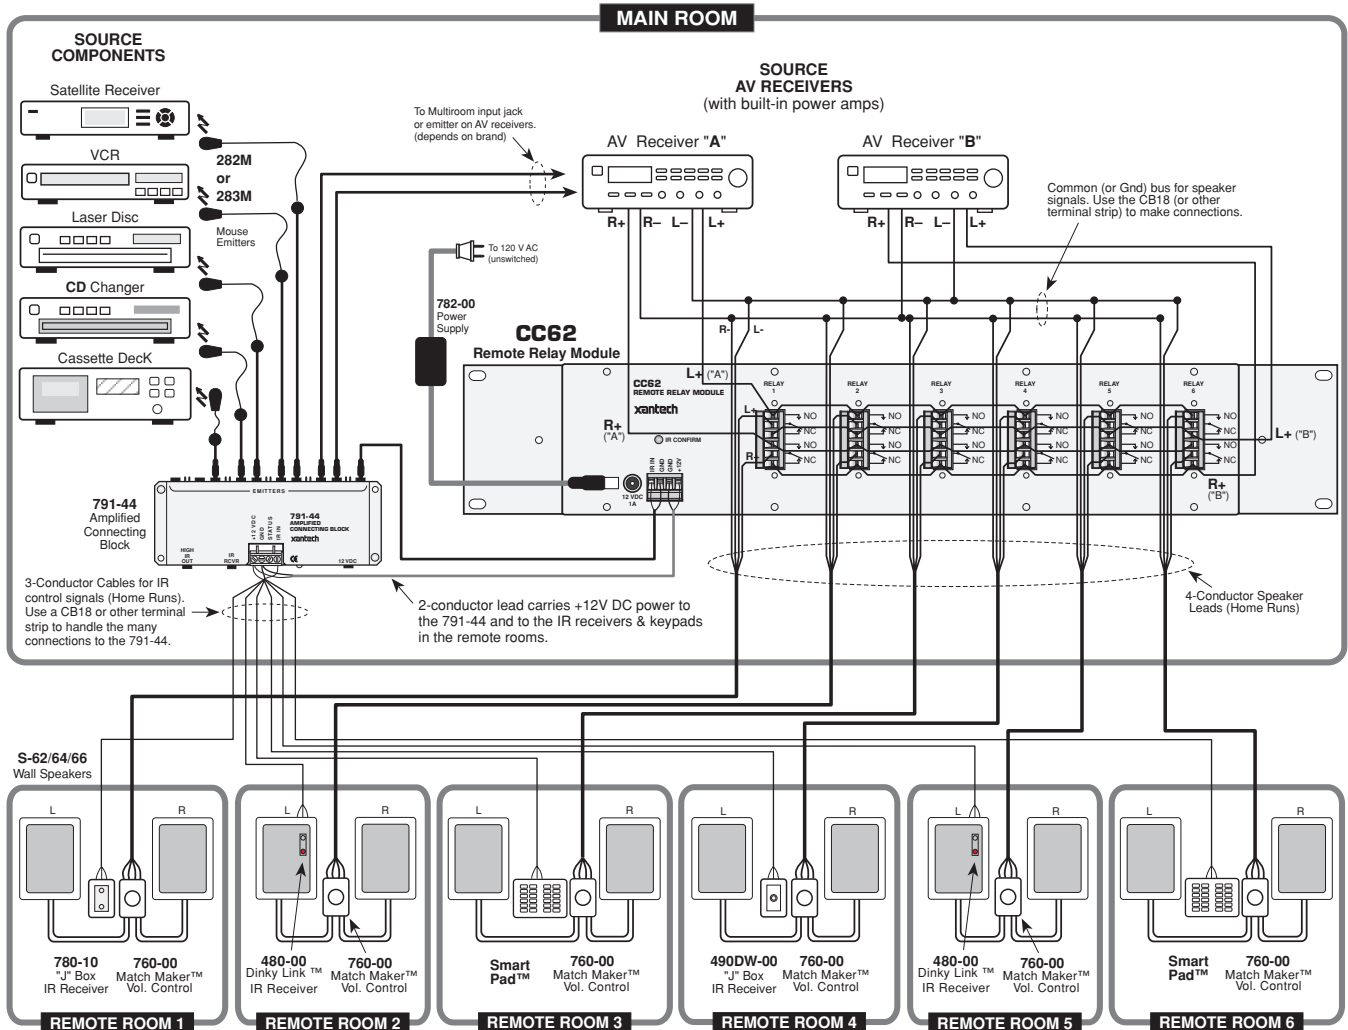

Fig. 4 A Typical Multiroom AV Receiver/Amp A/B Switching System
- **Amplifier A/B switching:** Each relay can be connected so that a stereo pair of speakers (in each remote room) can be switched between two AV receivers. This effectively creates a simple 2-zone system addressable from each room. Refer to **Fig. 4**.
NOTE: The CC62 is shown connected to Xantech 760-00 Match Maker room volume controls (**Fig. 4**) for individual room control. When set correctly, the Match Makers will provide the proper impedance match between the speakers and the amplifiers. See the 760-00 Installation Instructions for details.
1. **Power Supply Considerations.** Because of the relatively high current required to drive the relays in the CC62, the Xantech Model 782-00 High Current Regulated Power Supply *must* be used. In **Fig. 4**, all of the system IR control devices are also powered from the 782-00 through the CC62. To be sure you have sufficient power supply capability in your particular system, calculate the total current required using the method shown in the 791-44 instructions, then add 300 mA for the CC62. If the total exceeds 1 Amp, use a second supply to power the IR devices **separately** through the 791-44.